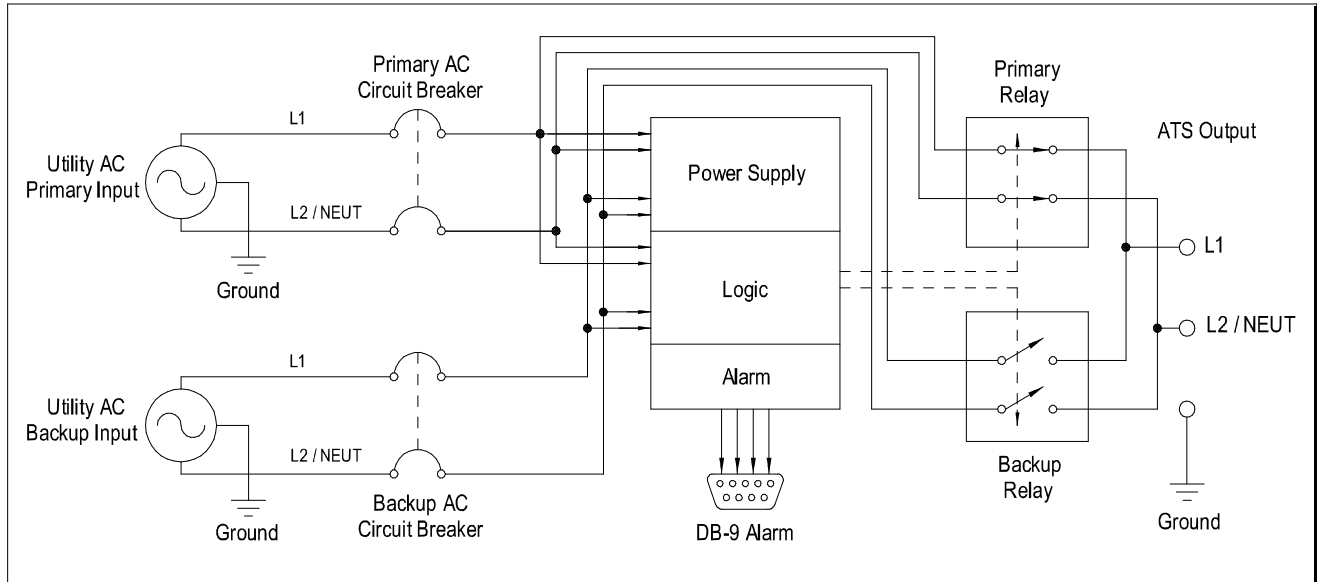

Figure 7: ATS-1000 System Architecture
2.1 ATS SYSTEM ARCHITECTURE – See Figure 7.